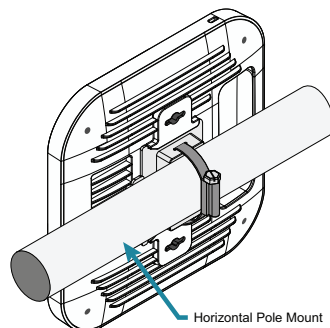

Figure 9. Horizontal Pole Mount
3. Wrap the hose strap around the horizontal mounting pole and insert the end into the strap lock. Tighten the lock of the hose strap to secure the unit to the pole (Figure 9).